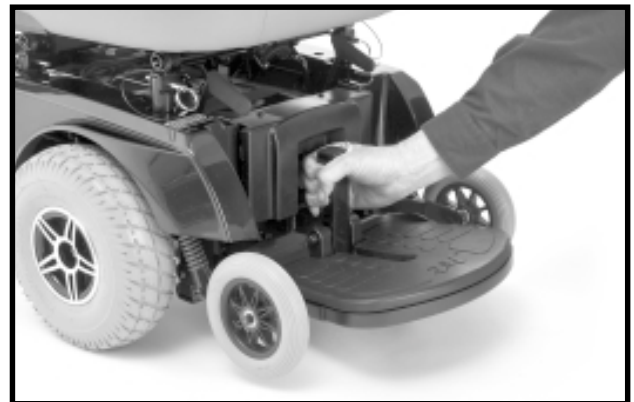

Figure 15. Removing the Foot Platform
8. Remove the foot platform. Slide the mounting bracket up the vertical bar of the front frame until the tabs on the mounting bracket can be pulled forward through the matching slots in the front frame. See figure 15.